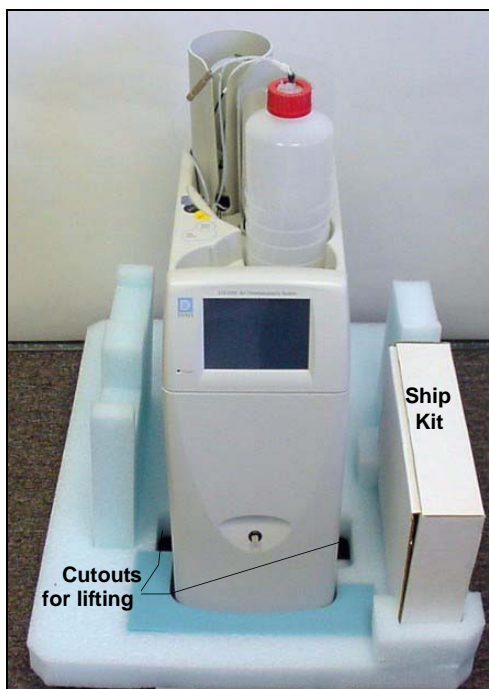

Figure 3. ICS-2000 with Ship Kit
4. Remove the next layer of foam and remove the Ship Kit box (see Figure 3).
5. The bottom foam layer has two cutouts on either side of the ICS-2000 module; use these as handholds when lifting the module (see Figure 3).